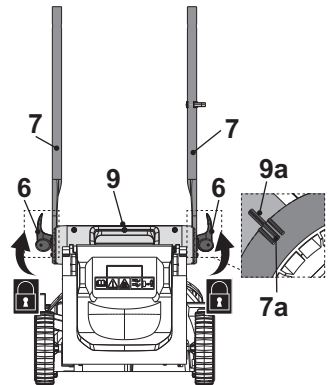

Fig. 2
3. Secure the lower handle bars (7) by folding up the clamp levers (6) towards the lower handle bars (7). If the clamp lever (6) cannot be folded, loosen it and fold again. If it is too loose, tighten it by turning the clamp lever (6) clockwise (Fig. 2).
6. Attach the washer (6a) and screw in the clamp lever (6) clockwise through the thread of the mounting bolt (6b), lock it by folding up the clamp lever (6) towards the handle. If clamp lever (6) cannot be folded, loosen it and fold again. If it is too loose, tighten it by swinging the clamp lever (6) (Fig.2, step 3).
7. Do it again on the other side. Make sure that the interconnection cord (16) run on the upper side of the handle bars (5, 7).